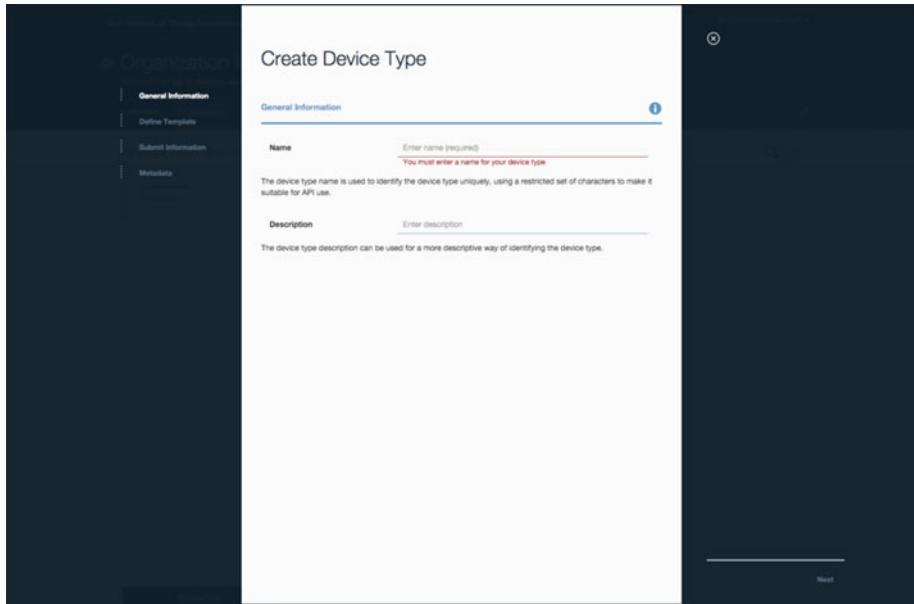

Figure 5-15. Create Bluemix Device Type
4. Click “Create Device Type,” and the screen in Figure 5-15 appears.